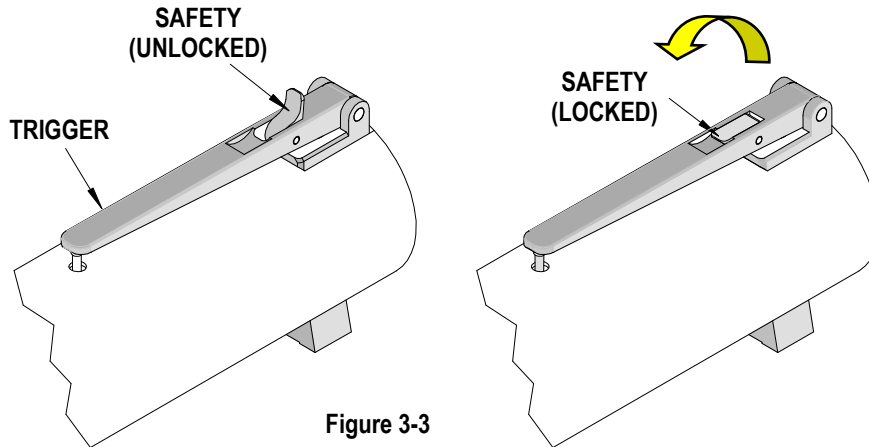

Figure 3-3
- Next lock the trigger on the actuator by flipping the safety switch. Push the safety switch all the way down on the end of the trigger to lock. See Figure 3-3.
To actuate the crimping tool, first lift the safety lock lever on the trigger. See Figure 3-3. The tool can now be actuated by depressing the trigger and holding until the ram is fully extended. After the ram has been extended fully, release the trigger and the ram will return.